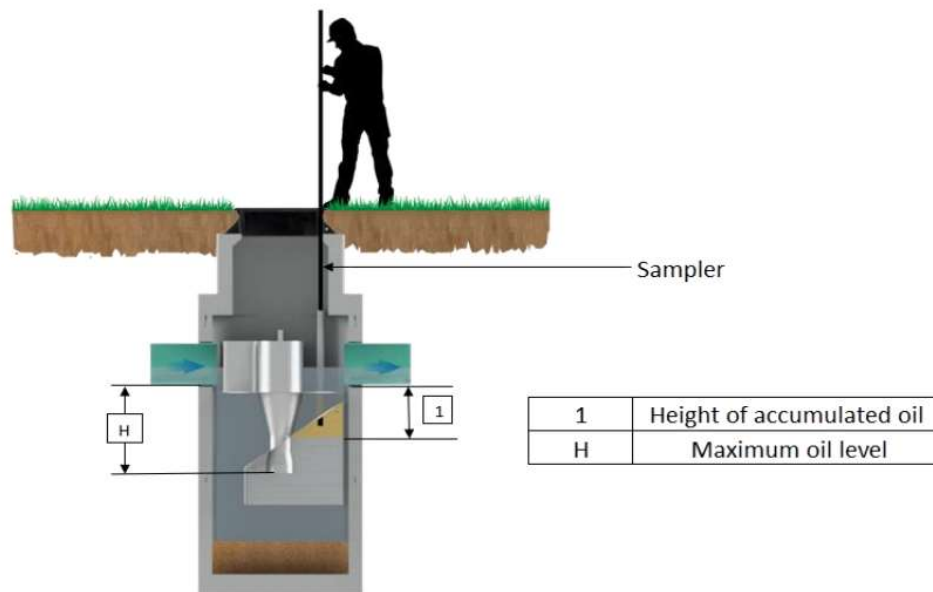

Figure 2 : Oil level inspection method
1. Oil Level Inspection (Figure 2)